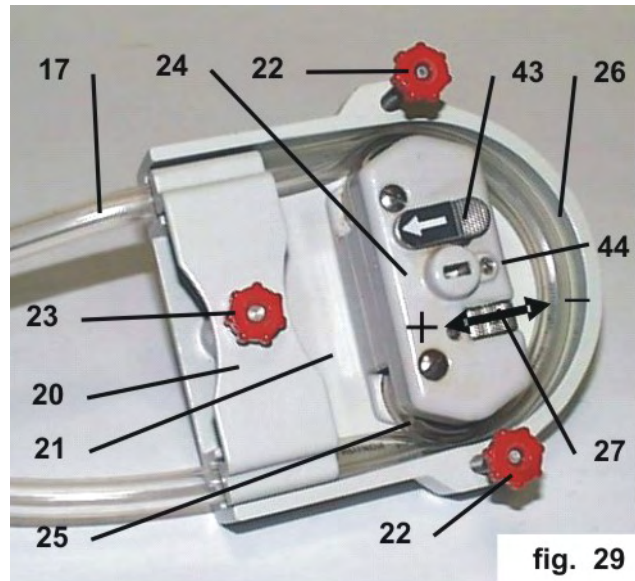

fig. 29
3.6. SP vario (fig. 29)
- The SP vario pump head accepts hoses of different wall thicknesses. Adjustment uses knurled knob (27).